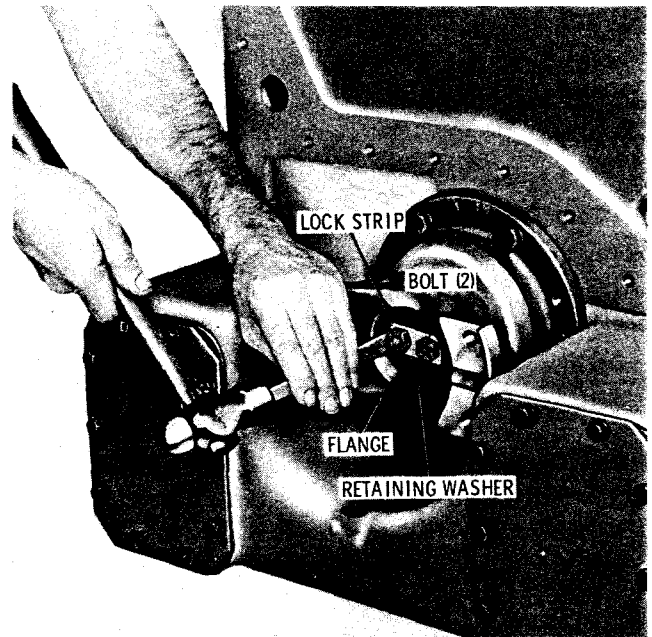

Fig. 5-38. Flattening lock strip which retains front output flange bolts
**Note:** The procedures in (1) and (2), below, apply to either front or rear components when the transmission includes a front output flange of any type, or a rear output flange, but no parking brake.
(1) Flatten the lock strip which retains the output flange bolts (fig. 5-38). Remove the two bolts, retaining washer, and shims (if used). Remove the output flange. If the flange has an interference fit, refer to paragraph 4-8a for removal instructions.